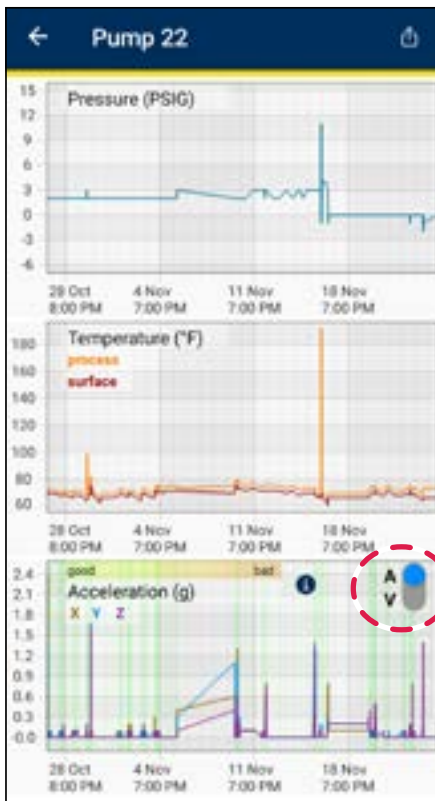

Figure 18
- Acceleration 0-peak and Velocity RMS are displayed in the same graph. Select the blue toggled button on the graph section to switch between V = Velocity, and A = Acceleration (see figure 18).